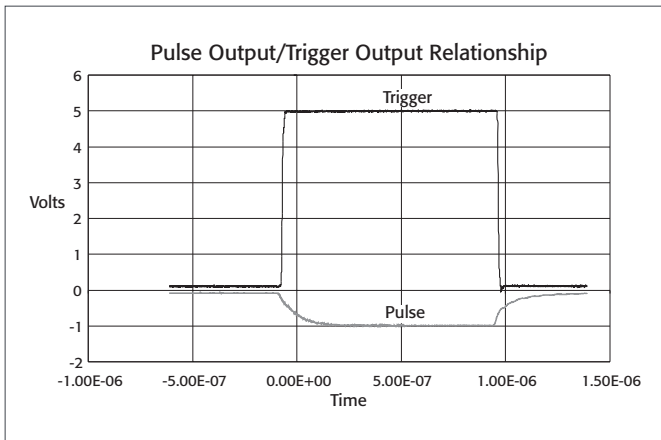

FIGURE 3
However, with the Model 2520, the limiting factor is not the test instrument, but the physics of the connections to the device. Keithley’s optoelectronics applications engineers have addressed these issues by studying and documenting the optimum cable configuration to enhance measurement accuracy with extremely fast pulses. **Figure 3** illustrates the results of a typical pulse LIV sweep test with the Model 2520. In this test, a 100-point pulsed LIV sweep using a 1µs pulse width, at 1% duty cycle, was completed in just 110ms (including data transfer time), several orders of magnitude faster than existing, semi-custom test systems.
**FIGURE 3.** This plot illustrates the Model 2520’s pulsed LIV sweep capability. The sweep was programmed from 0 to 100mA in 1mA steps. Pulse width was programmed at 1µs at 1% duty cycle, providing for a complete sweep in just 10ms (excluding data transfer time).
Pulse Trigger Out BNC: +5V, 50W output impedance, output trigger corresponding to current source pulse; pulse to trigger delay <100ns. See Figure 3.